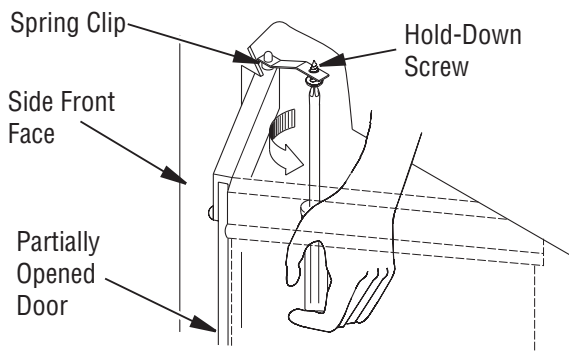

Figure 33 - Adjusting Glass Doors
7. To adjust doors, slide them partially open. Using a screwdriver, loosen hold-down screws in the spring clip (see **Figure 33**) and pivot plate.